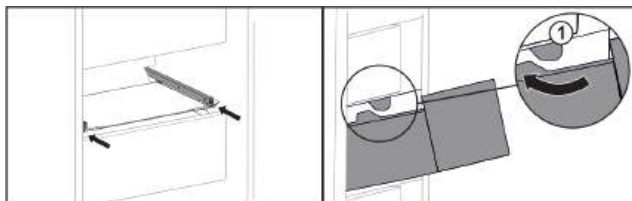

Fig. 108
- Guide drawer around the stoppers Fig. 108 (1).